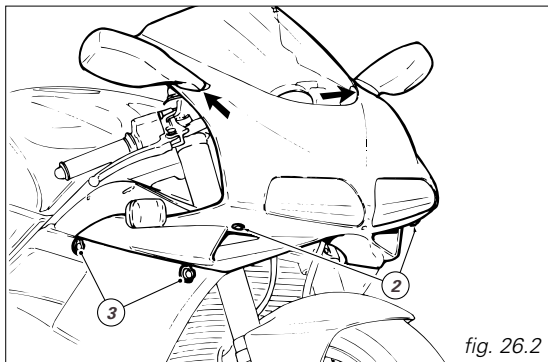

fig. 26.2
Undo the two fastening screws (2, fig. 26.2) of the headlight support and disconnect the four connectors (3) joining the two body panels together.